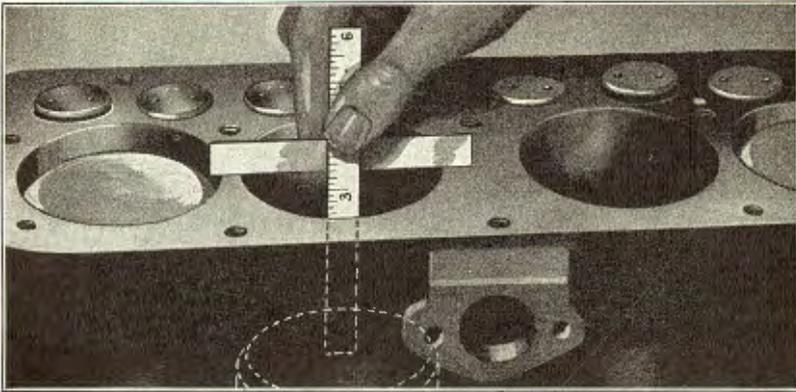

Fig. 173
- 261** Valves should next be checked for opening and closing with respect of piston travel. The opening and closing of valves with respect to position of pistons is as follows: Exhaust valve opens when the piston reaches $\frac{5}{16}$ " before bottom center; this can be determined by measuring the distance from the top of the piston head to the top of the cylinder block; the distance between these points being $3\frac{3}{8}$ " (See Fig. 173). The exhaust valve closes at top center, the piston being $\frac{5}{16}$ " above face of cylinder block. The intake valve opens $\frac{1}{16}$ " past top center or when piston is $\frac{1}{4}$ " above top of cylinder block. The intake valve closes $\frac{9}{16}$ " past bottom center, the distance from the top of the piston to the face of the cylinder block being $3\frac{3}{8}$ ".